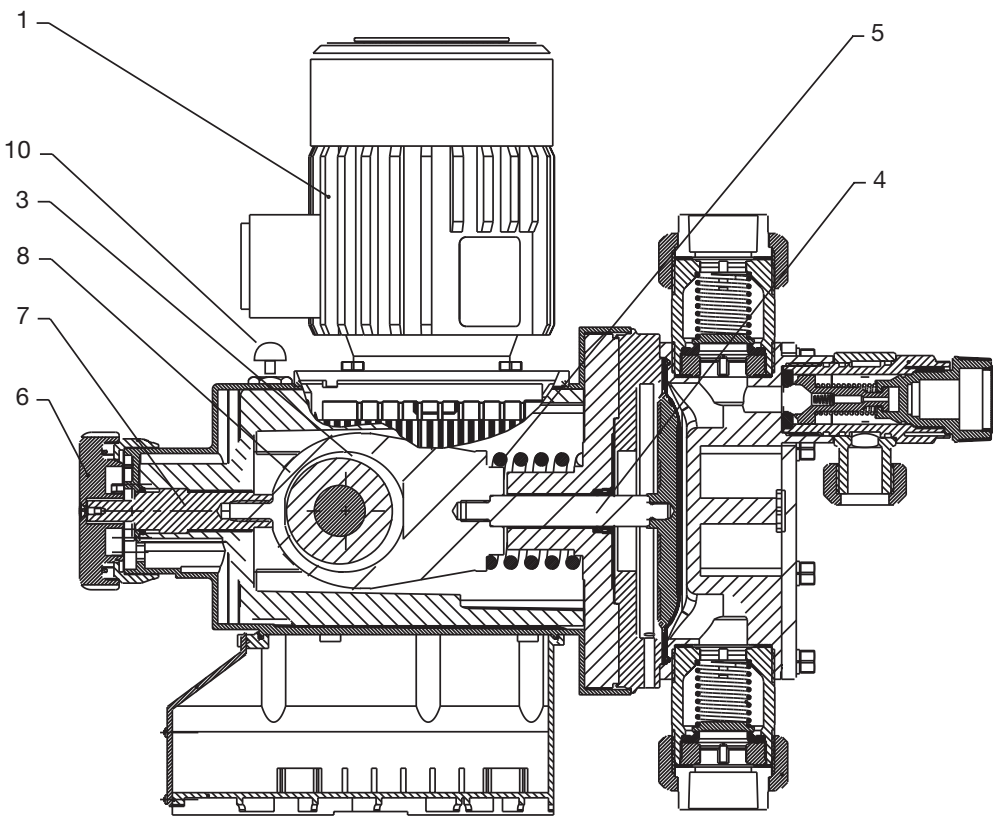

Fig. 2
- Pull the red plug for venting the gear unit during initial operation of the Sigma/ 3 metering pump (refer to Fig. 2, item 10)!